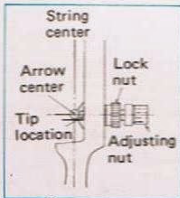

Fig. 1
When using the cushion plunger, also use the Yamaha arrow rest, 'Flip II' or 'Flip EX'. After removing the back-paper, attach it on the window section. (See Fig. 1.)
1. Holding the strung bow vertically, measure the tiller heights L1 and L2 at both the upper and lower ends of the handle as shown in Fig. 1.